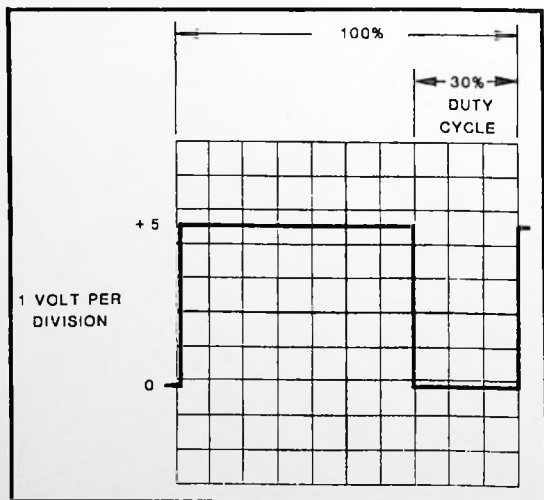

Figure 5-1
- b. Adjust R303 so that an approximate 75% duty cycle is observed on the scope display. This adjustment must be made with a tape cartridge running in the transport. See Figure 5-1. Slight variations in the duty cycle will be observed as the controller compensates for rotational nonlinearities of the motor.